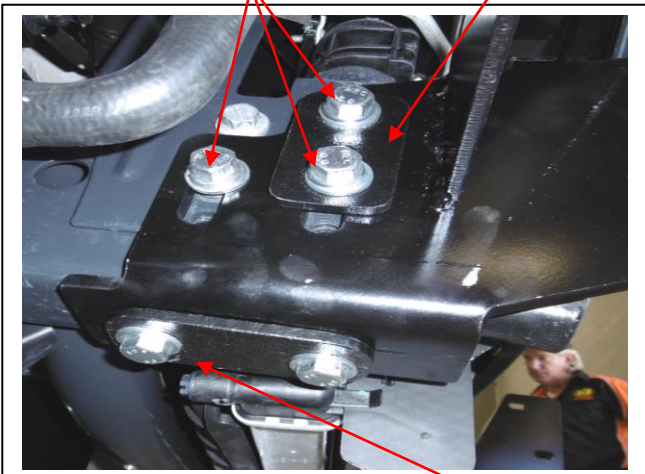

Figure 7 Large bolt washer plate (100 x 50mm)
8. Position the driver's side steel mounting bracket (supplied) using three M12 x 75 x 1.75mm bolts, flat washers, spring washers and small bolt washer plate (supplied) through the side. Fasten under the steel mounting bracket using two M12 x 1.75 x 40mm bolts, flat washers, spring washers, large bolt washer plate and nuts (supplied). **FINGER TIGHTEN ONLY. See figure 7.**